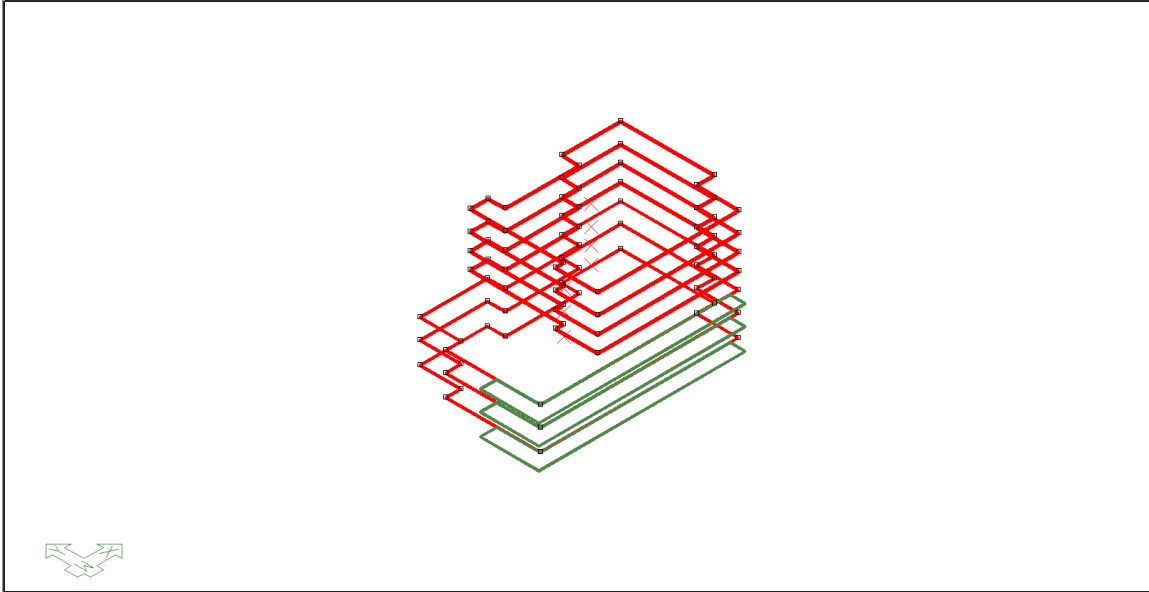

FIGURE 8-7
- Hold the *Ctrl* key on your keyboard and *Left-click* on each main slab region to select all the main slab regions of the model. Make sure you do not select the balcony slabs on Levels 1 through 3 as the balcony does not have the cladding load on it. Once all the main slabs regions are selected the screen will look like **FIGURE 8-7**.